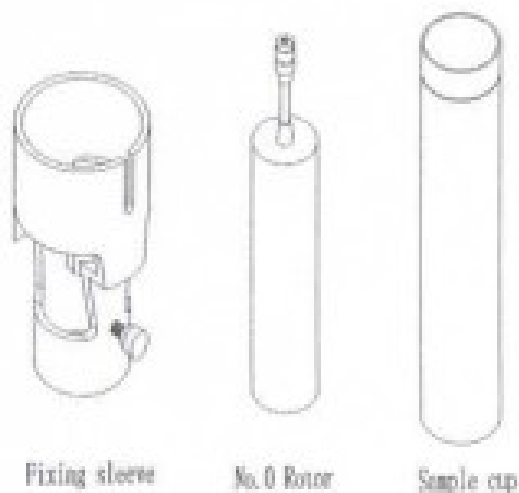

Fig. 5
1. The No. 0 rotor component is composed of a fixed sleeve, No. 0 rotor, and a test cylinder. Its structure is shown in Fig. 5. This component can only be used when the No. 0 rotor is measured, and this component is not suitable for other rotor tests.